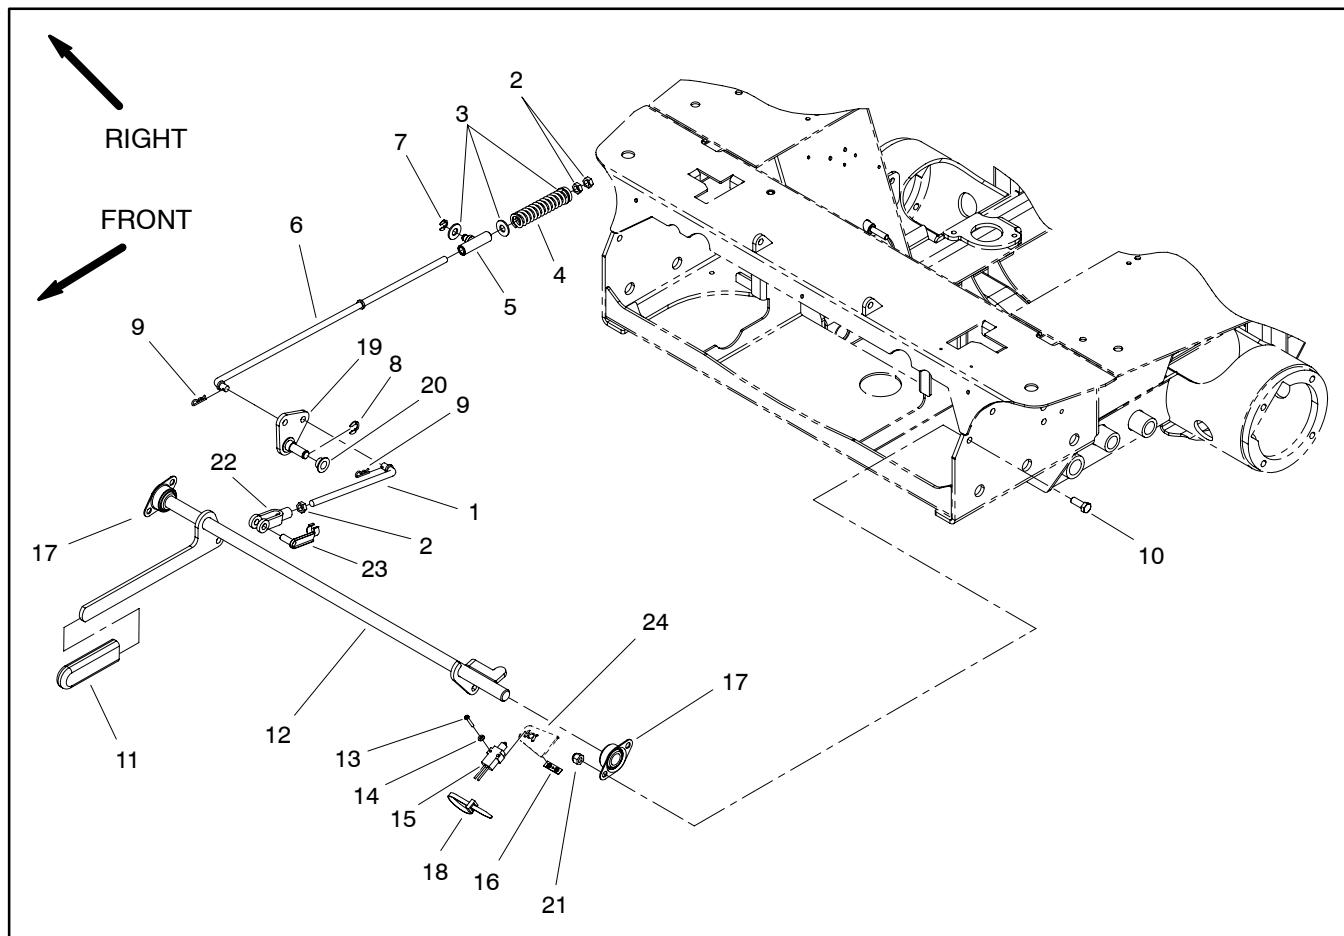
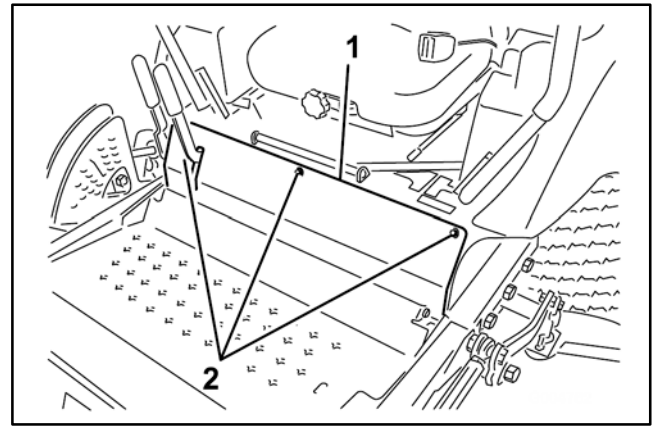

Figure 9
Figure 10
Disassembly (Fig. 9)
2. Remove front panel under the operator seat (Fig. 10).
3. If removal of brake handle (item 12) is necessary:
4. Remove additional parking brake components as necessary using Figure 9 as a guide.
Assembly (Fig. 9)
1. Assemble parking brake components as necessary using Figure 9 as a guide.
4. Install front panel to the machine (Fig. 10).